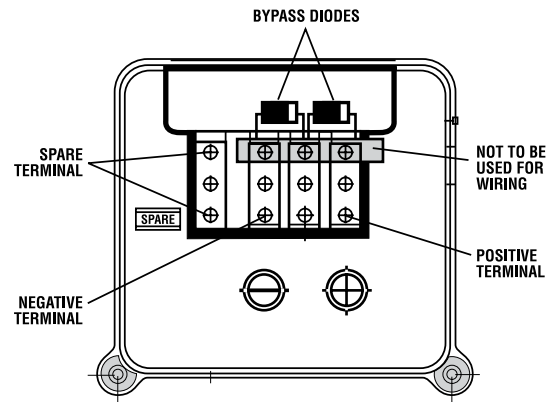

Figure 2. Junction Box Components
- Diodes can be easily replaced in the field if necessary. Use only Super Barrier type diodes, Diodes Inc SBR10U45SD1, 45V, 10A or Diotec SB1240. Diodes should be installed as shown in Figure 2.
- The electrical connection block has three (3) double screw terminals; positive (+), negative (-) and spare. It is recommended that the top screws of the terminals be reserved for the bypass diodes, and the output wiring be connected only to the bottom screws. Junction box components are described in Figure 2.